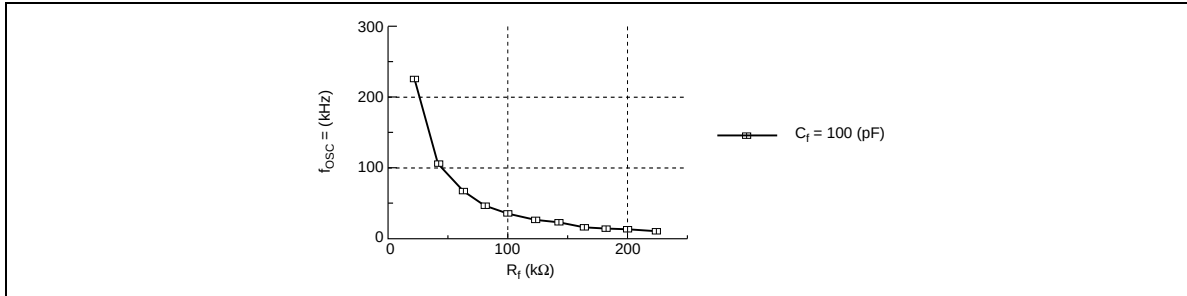

Figure 19 Oscillation Frequency Characteristics
12. Figure 19 shows a typical relation among oscillation frequency R_i and C_i . Oscillation frequency may vary with mounting conditions.